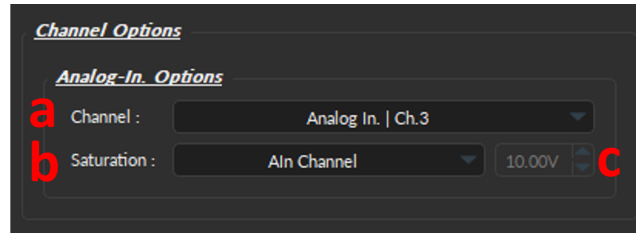

Figure 16.67: Filters, Channel Options
b) The **Saturation** (Fig. 16.67, b) specifies the detectors used to collect the **Analog Input** data and automatically set its corresponding **Maximal Voltage** value (Fig. 16.67, c) that saturates it. Choosing the right detector is important as different detectors are saturated at different voltage levels (Table 16.2). If none of the common detectors are collecting data, use the **AIn** option to set the NC500 **Maximum Voltage** (10V), or the **Custom** option to set it between 0V and 10V.
c) The **Maximum Voltage** (Fig. 16.67, c) displays the values at which preset detectors are saturated (Table 16.2). This value is used to warn users when the collected signal is saturating the detector, as in Fig. 16.18.